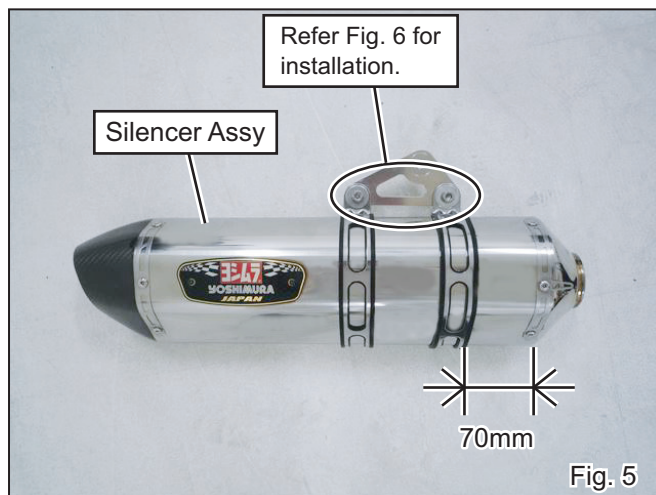

Fig. 5
- 6) Place 2 of Silencer Band Rubber inside each Silencer Band and slide them on Silencer Assy as the front one is positioned as shown on Fig. 5. Mount Silencer Bracket with 2 of Cap Bolt M8x20, 4 of Washer M8x26, and 2 of Flange Nut M8 (See Fig. 5 & 6). Tighten the bolts by hand only at this stage.